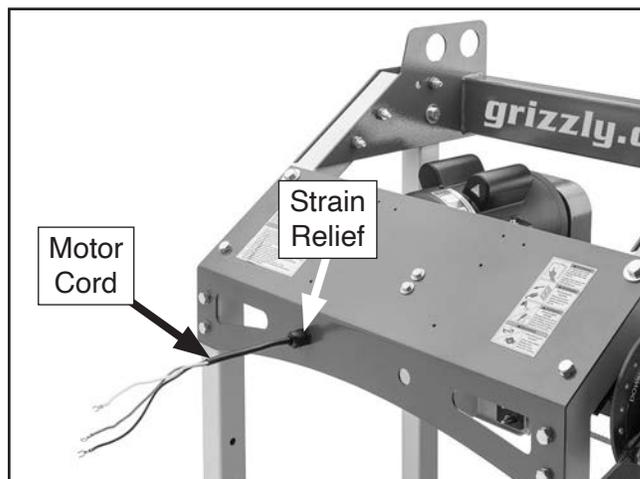

Figure 49. Motor cord inserted through switch panel strain relief.
- 54. Remove (1) nut from strain relief, then use nut to install strain relief on switch panel as shown in **Figure 49**.
- 55. Insert motor cord through strain relief on switch panel (see **Figure 49**).